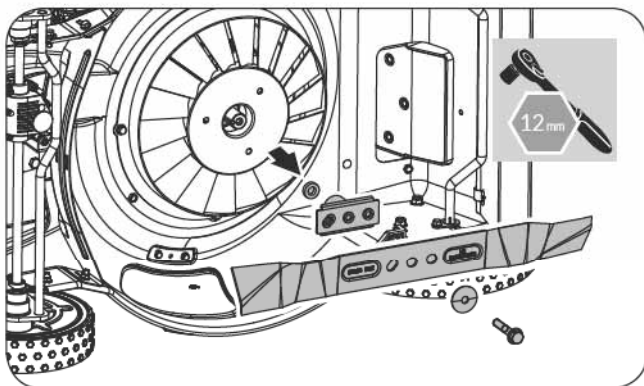

Figure 23
1. Remove the bolt fix the blade and remove the blade (See **Figure 23**)